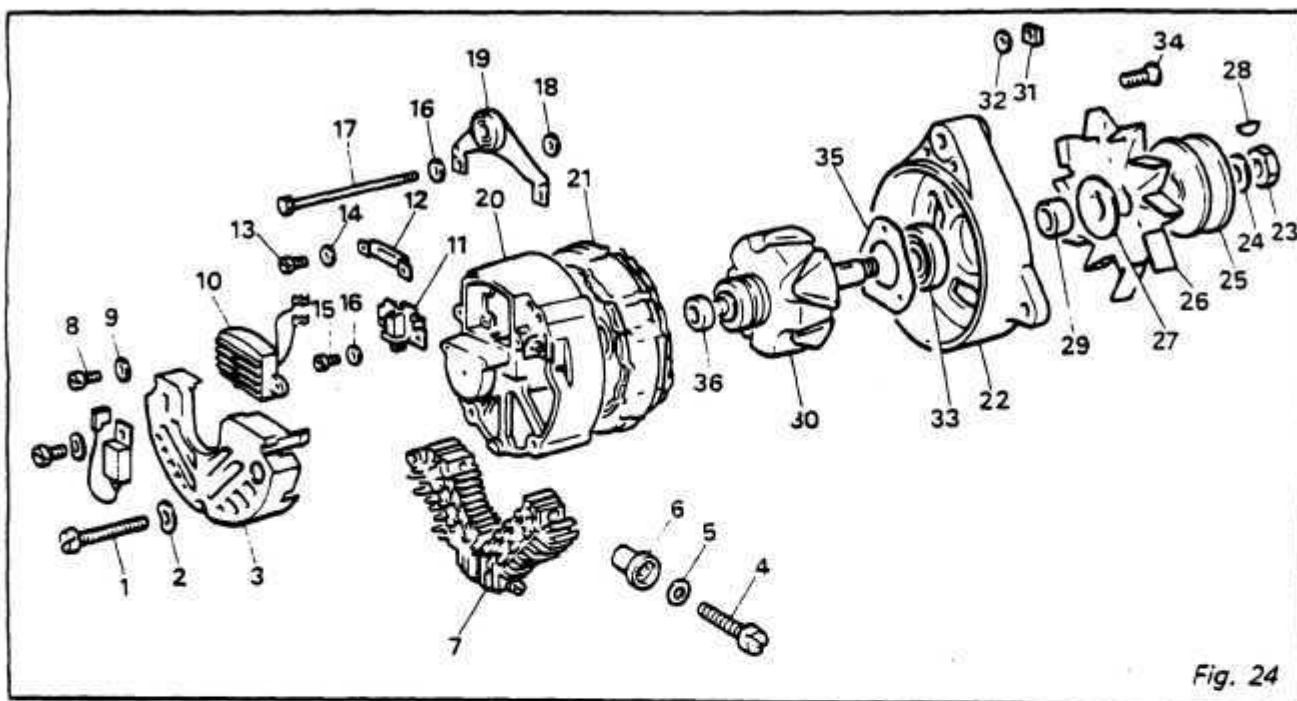

Fig. 24
REMOVING REGULATOR — Fig. 24
REMOVING THE DIODE CARRIER — Fig. 24
REMOVING THE BRUSH CARRIER — Fig. 24
REMOVING THE STATOR — Fig. 24
REMOVING REAR BEARING – Fig. 24
REMOVING THE ROTOR – Fig. 24
1. Remove regulator (10), brush carrier (11) and regulator feed plate (12).
2. Mark the relative position of rear housing (20), stator (21) and front housing (22).
3. Place an old fan belt around the pulley (25) and clamp the belt in vice jaws with the pulley (25) as close to the vice as possible. The friction and self wrapping action of the belt will provide adequate reaction to loosening the pulley nut (23).
4. Remove the assembly from the vice. Remove the nut (23), washer (24), pulley (25), fan (26), washer (27), key (28) and spacer bush (29).
5. Remove four through bolts (17), washers (18), attachment bracket (19), nut (31), washer (32), recessed in front housing (22).
6. Withdraw front housing (22).
7. Remove stator (21).
8. With suitable levers, remove rotor (30) from rear housing (20). Fig. 24